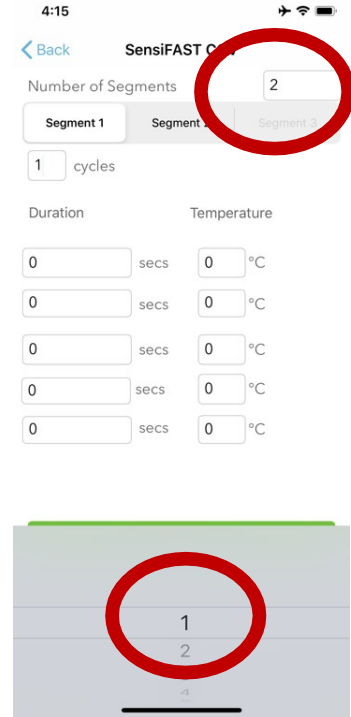

Figure 10: Click number of Segments at top of screen.
1.2.6. The protocol set-up screen will appear. Protocols are written as sequential segments, each segment representing a different number of cycles. Enter the **Number of Segments** required (**Figure 10**). Note this will differ for the Extraction-free sample processing (Section B) and the SalivaDirect™ reaction protocols as described in the examples below.